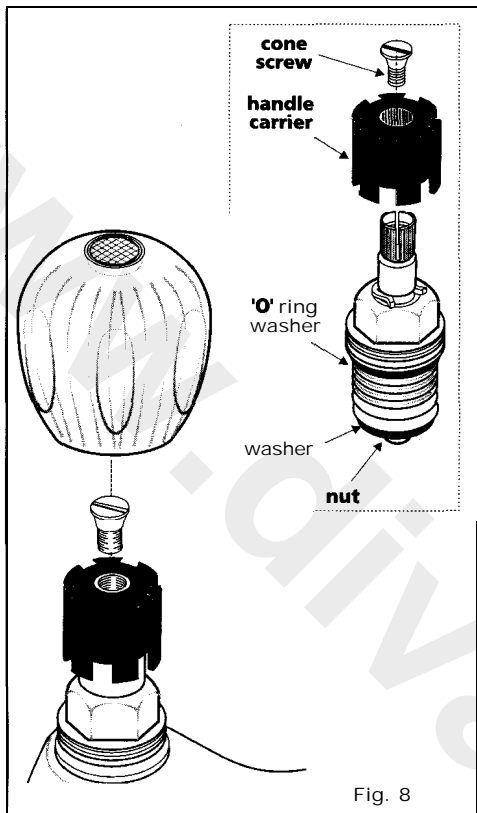

Fig. 8
## FIT HANDLES (Figs. 8 & 9)
- To fit snap on handles tighten cone screw to secure handle carrier to spindle. When necessary, it is essential that the handle carrier is secured tightly to the spindle before the handle is fitted otherwise the handle, will be loose and damage could result (see Fig. 8).